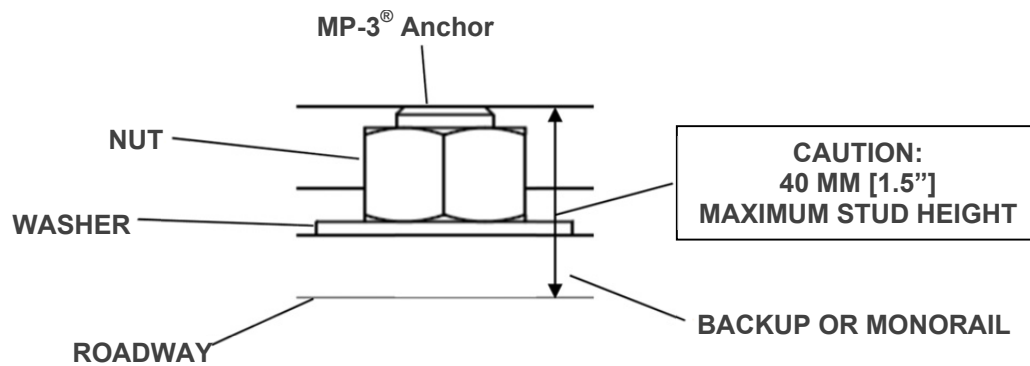

Figure 54
A) Monorail Assembly for Concrete Backup (see Figure 54).